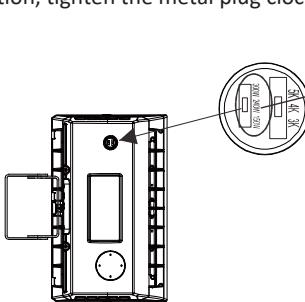

figure 19
Step 2: After adjusting the required control function, tighten the metal plug clockwise. (Figure 19)